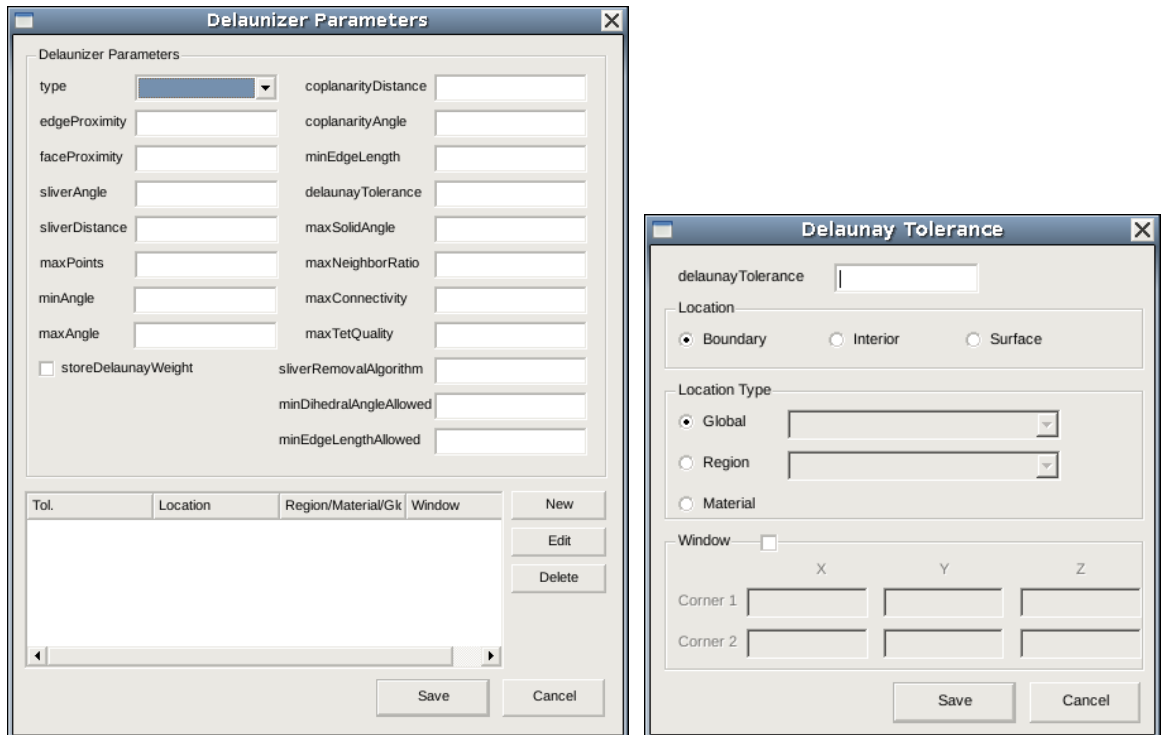

Figure 124 (Left) Delaunizer Parameters dialog box and (right) Delaunay Tolerance dialog box
The Delaunizer Parameters dialog box is displayed (see Figure 124 \(left\)).
3. Click the **New** button to display the Delaunay Tolerance dialog box (see Figure 124 \(right\)).